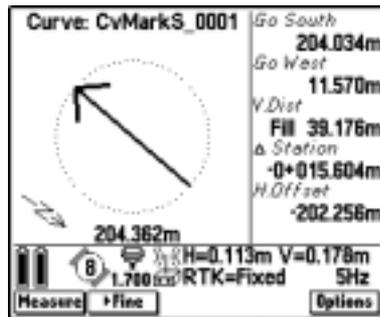

Figure 17.14 Staking out a curve
6. Use the graphical display or the text display (see Figure 17.14) to navigate to the point. For more information, see Using the Graphical Display to Navigate, page 400.